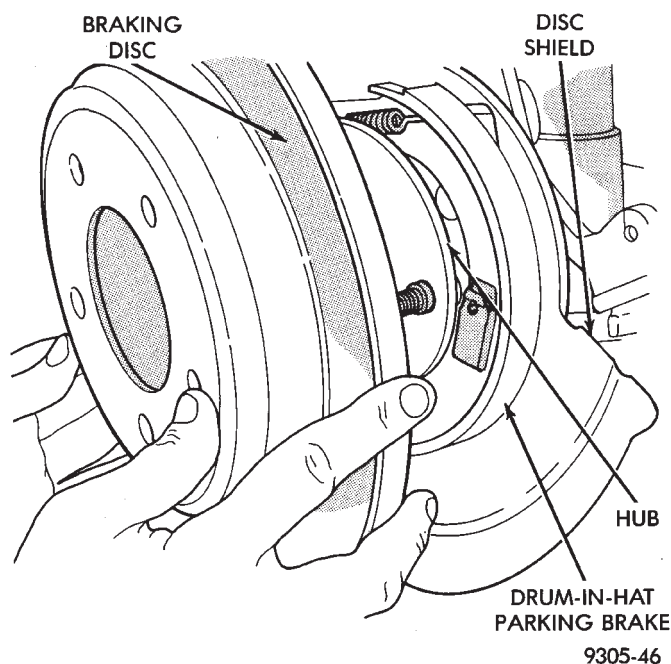

Fig. 42 Removing / Installing Rear Rotor
(6) Remove the rear rotor from hub by pulling it straight off the wheel mounting studs (Fig. 42).
(2) Lubricate both adapter abutments with a liberal amount of Mopar® Multipurpose Lubricant, or equivalent.
(3) Install the rear rotor on the hub, making sure it is squarely seated on the face of the hub (Fig. 42).